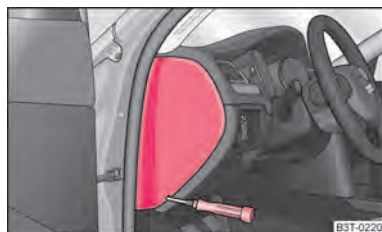
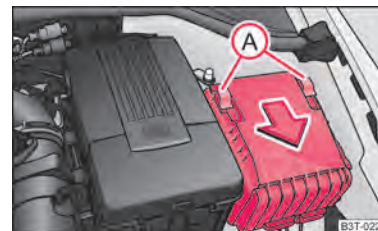

Fig. 198 Fuse cover: left side of the dash panel
Fig. 199 Fuse cover in engine compartment
- Use a screwdriver to take off the fuse cover on the side of the dash panel ⇒ **fig. 198** or the fuse cover in the engine compartment ⇒ **fig. 199**.
- Move the circlips (A) ⇒ fig. 199 as far as the stop, the symbol ⚠ appears behind the circlip and remove the cover.